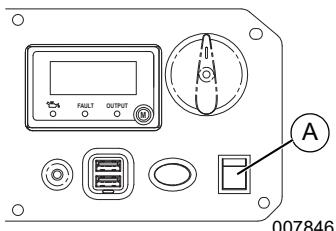

Figure 3-4.Push and Hold Off/On Switch
5. Push and hold Off/On switch in the ON position. See **Figure 3-4** (A). Release switch when engine starts.